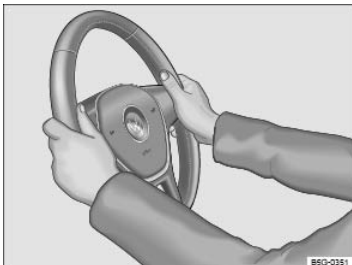

Fig. 72 Steering wheel: 9 o'clock and 3 o'clock positions.
- Adjust the steering wheel so that it can be held with hands at the 9 o'clock and 3 o'clock positions on the outside of the steering wheel rim and with the arms slightly bent at the elbow ⇒ Fig. 72.
- Always hold the steering wheel on the outside of the steering wheel rim with your hands at the 9 o'clock and 3 o'clock positions ⇒ Fig. 72 to help reduce the risk of serious personal injury if the driver's airbag inflates.